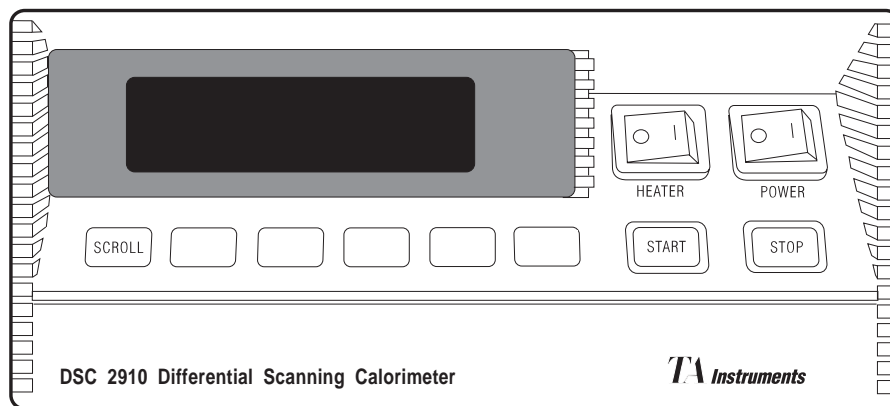

Figure 2.8
1. Make sure the DSC 2910 POWER switch (see Figure 2.8) is in the OFF (0) position.